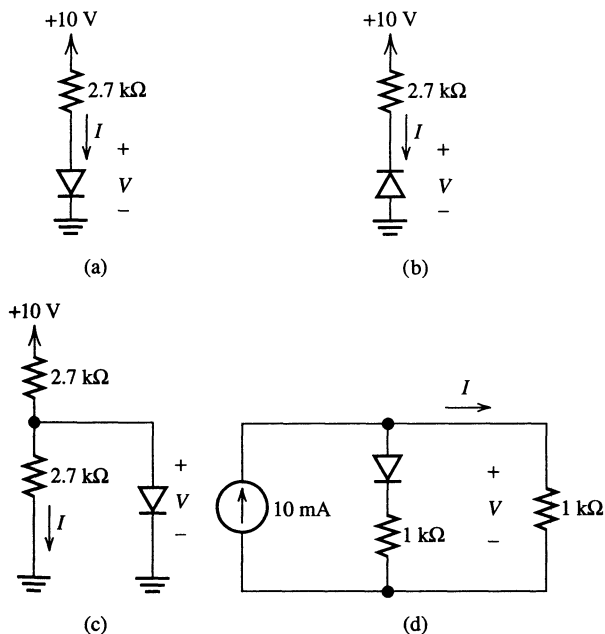

Figure P3.15
3.15. Assuming that the diodes are ideal, find the values of I and V for the circuits of Figure P3.15.